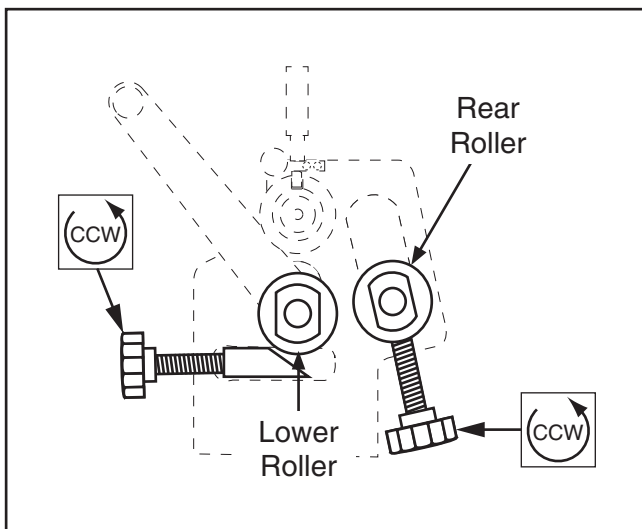

Figure 11. Slip roll preparation.
1. Turn thickness adjustment knobs to adjust lower roller to approximately $\frac{1}{4}$ " below top roller (see **Figure 11**).
2. Lower rear roller to lowest position (see **Figure 11**).